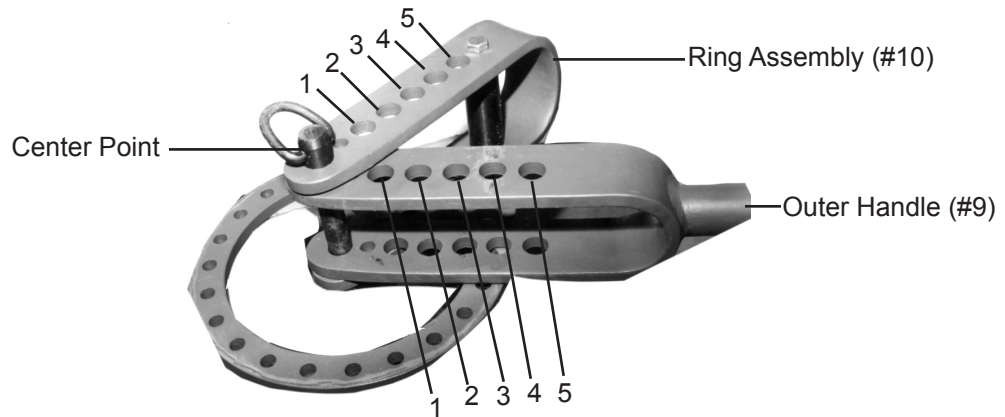

Figure 3 - Numbering of Holes
Throughout this manual, the holes are often identified by a specific number, i.e., the 3rd hole in the Handle. There are five (5) holes referred to in the Outer Handle/Die Receiver (#9) and 5 holes referred to in the Ring Assembly (#10). For clarification of each hole and its corresponding number, please refer to Figure 3 below.
- Two Dies can be placed so that one is on the Outer Handle/Die Receiver (#9) and one at the center point where the Outer Handle/Die Receiver (#9) and Ring Assembly/Die Receiver (#10) intersect-see Figure 3.